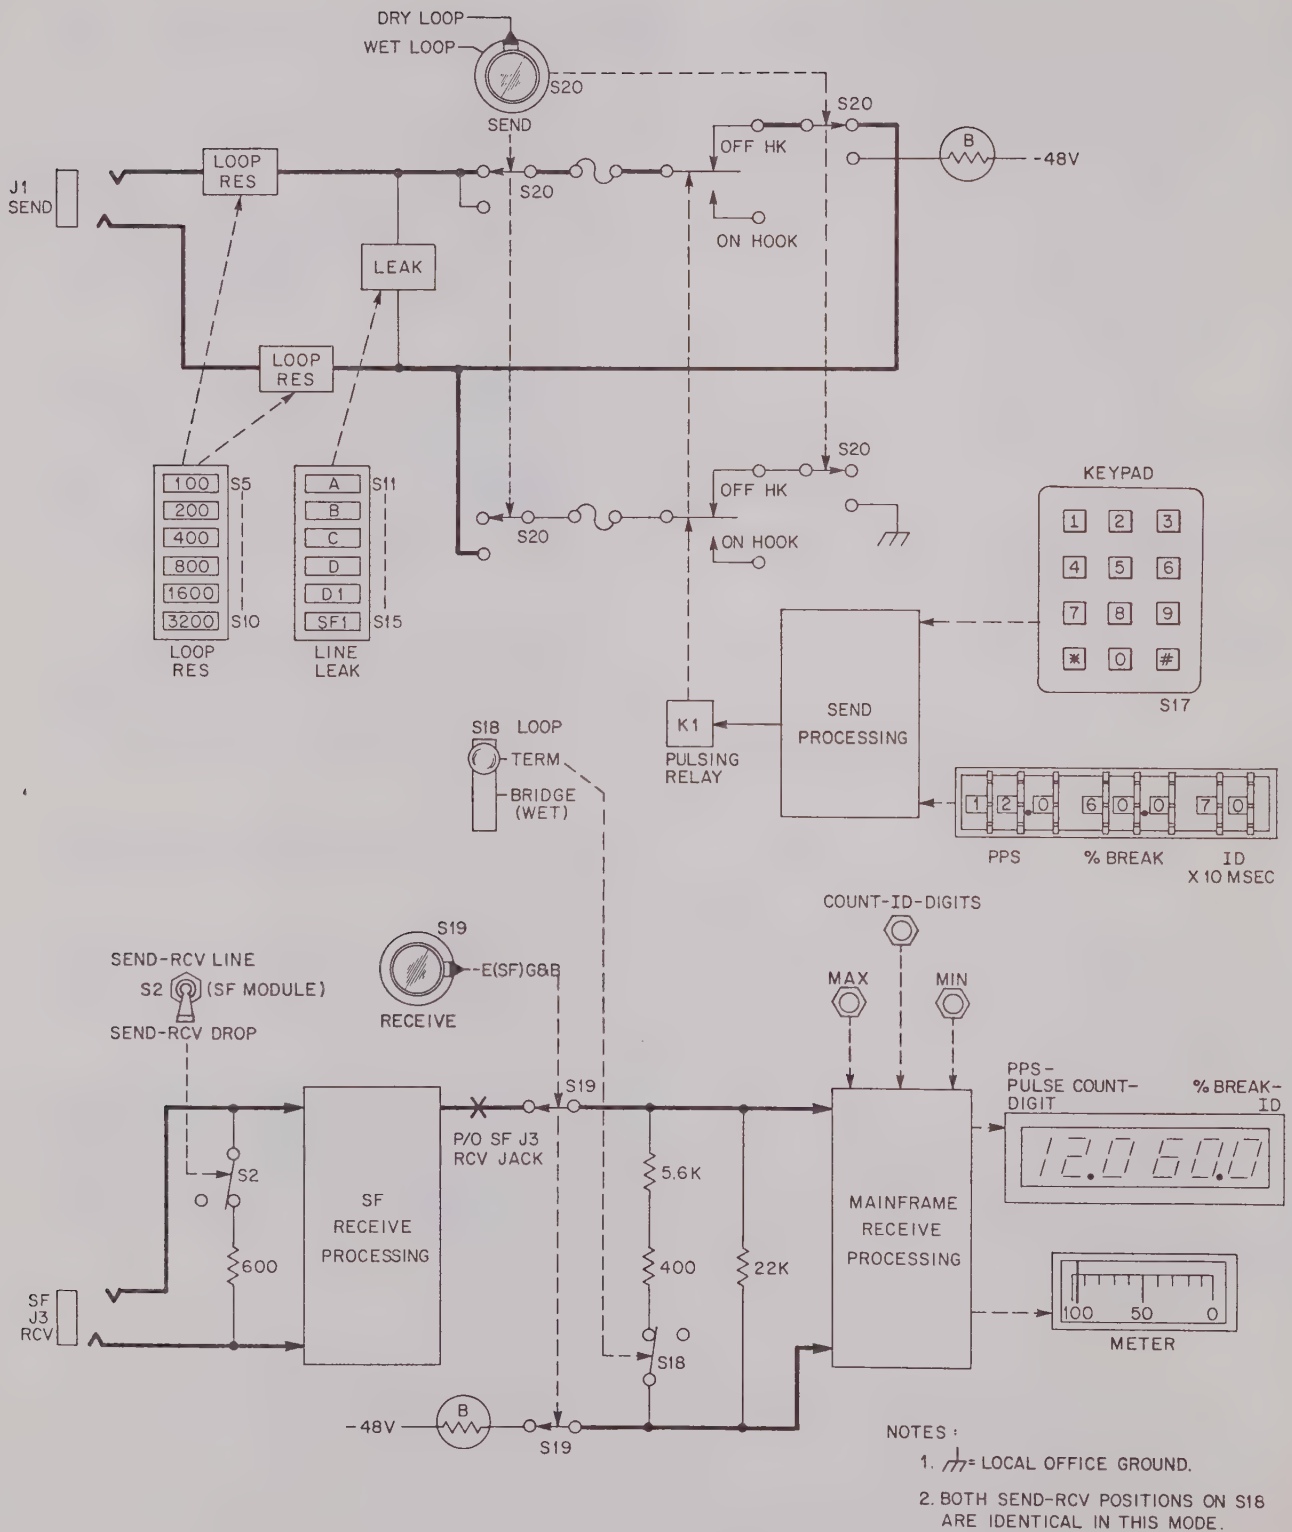

Figure 4-25. Sending On Loop While Receiving Through SF
4.83 To receive either steady-tone or pulsed SF, perform the following steps. See the bottom portions of Figures 4-25 and 4-26 for the illustrations that show the SF RCV jack in relation to the internal circuits that define the measureable conditions at the tip and ring.